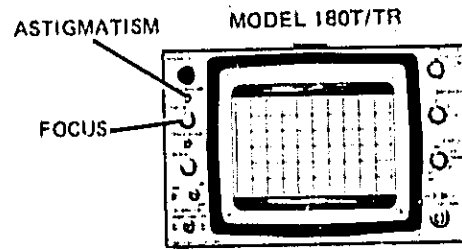

Figure 5-8. Astigmatism Adjustment
c. Adjust FOCUS and ASTIGMATISM front-panel screwdriver adjustment for smallest round spot (see figure 5-8).